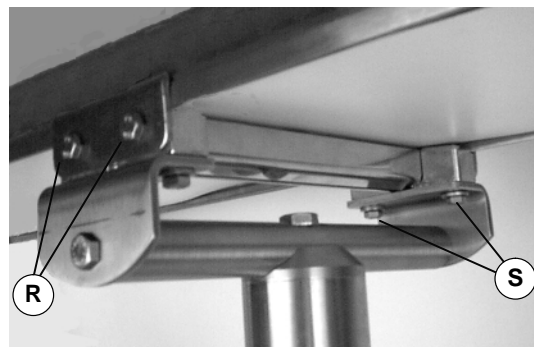

Figure 16
3. Attach clamp plates on each side of conveyor (Figure 16). Tighten the screws (R) to 10.4 Nm.